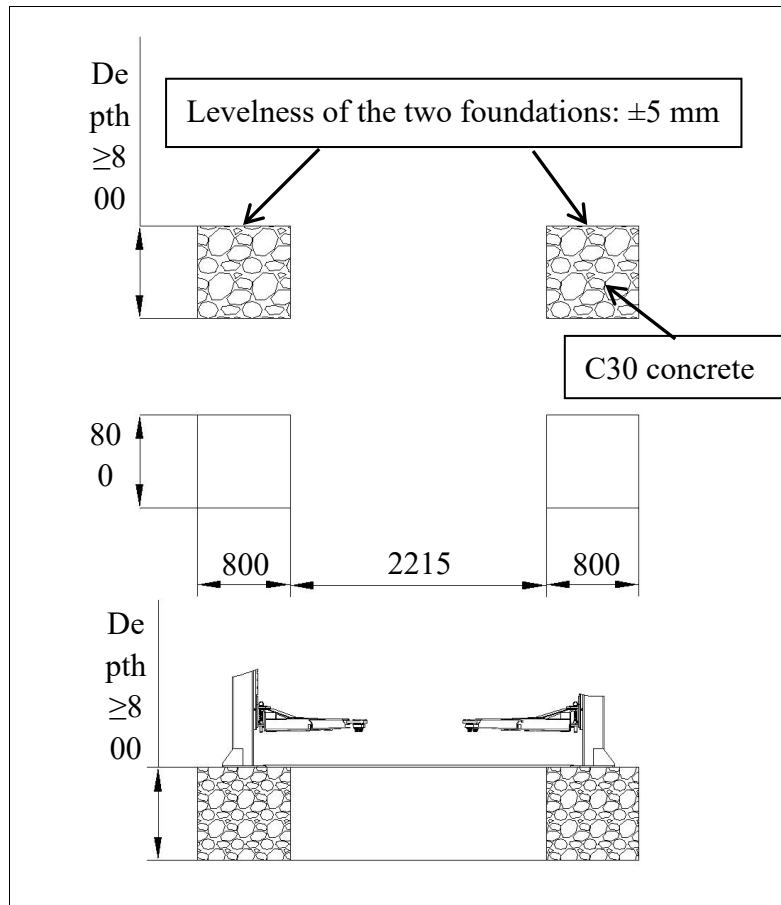

Figure 2 Foundation Dimensions of the Lift (Unit: mm)
7.2 The lift can only be installed on a concrete ground with C30 concrete foundation, thickness greater than 800mm and horizontal level error less than 5mm. Newly poured concrete needs to be cured for more than 20 days (see Figure 2).